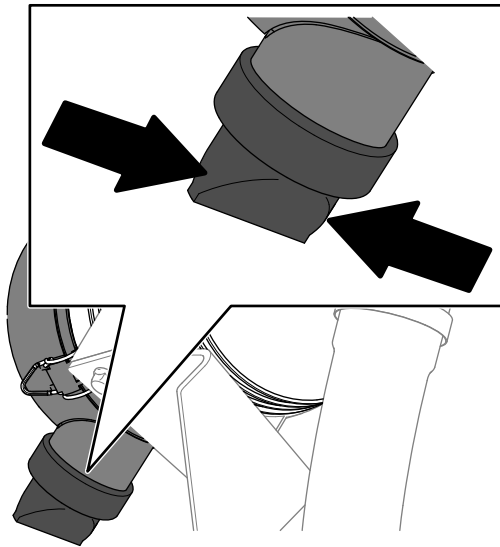

Figure 78
5. Squeeze the dust-ejector valve (Figure 78).